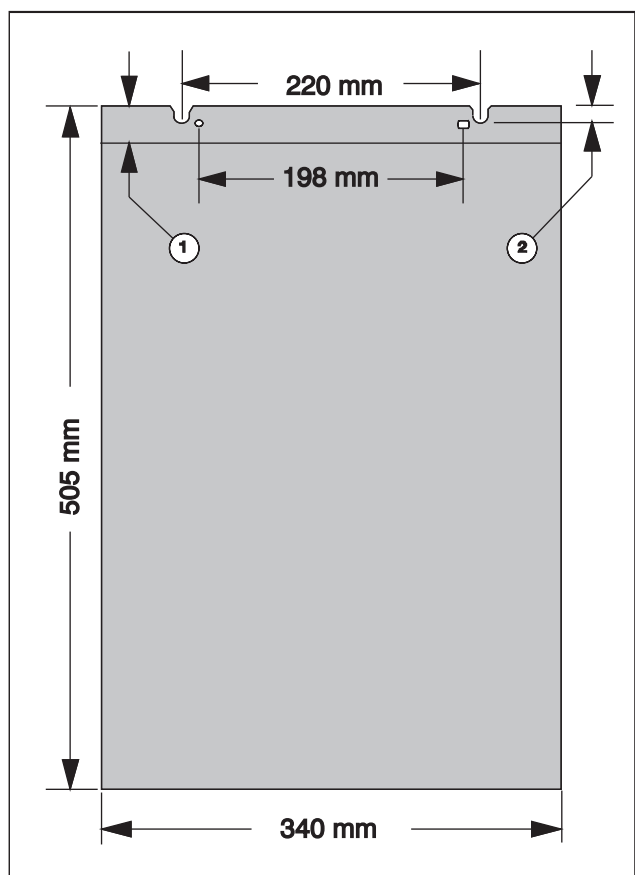

Fig. 3 Punching pattern on a printing plate
Fig. 3 shows the punching pattern of the printing plate.
- 1 Distance from the front edge of the plate to the first line of the print: 30 mm (Fig. 3/1).
- 2 Front edge of the plate to the register pin: 11 mm (Fig. 3/2).